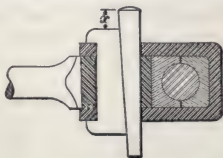

FIG. 39.
**EXAMPLE.**—In Fig. 39, the key has been driven home until the brasses nip the pin; it has been determined to run the brasses with a clearance of  $\frac{1}{8}$  inch; how much must the key be backed out, its taper being  $\frac{1}{4}$  inch per foot?